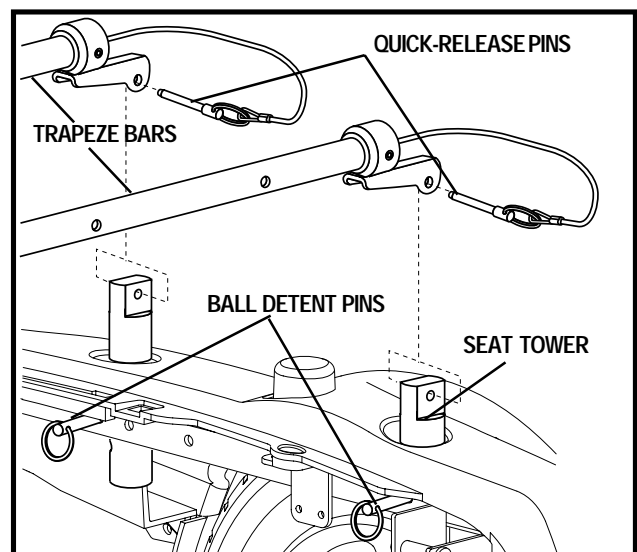

Figure 14. Seat Height Adjustment
6. Remove the quick-release pins from the seat towers (front and rear). See figure 14.
9. Remove the ball detent pin from each of the four seat towers. See figure 14.